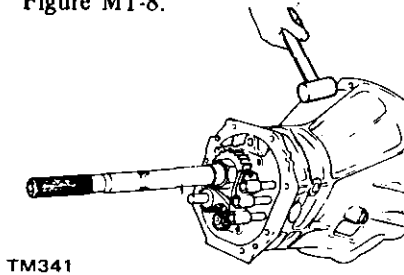

Fig. MT-8 Removing transmission case
11. Separate transmission case from adapter plate with a soft hammer. See Figure MT-8.